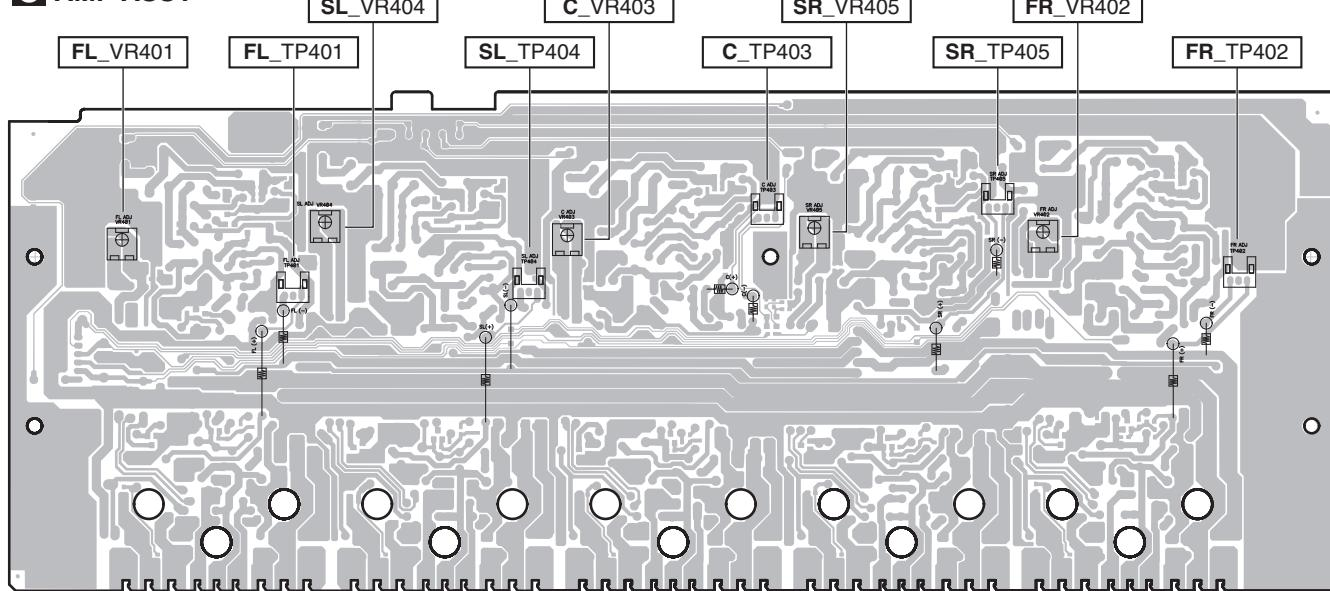

Fig. 1
- Adjustment points and measurement points.... see fig.1.